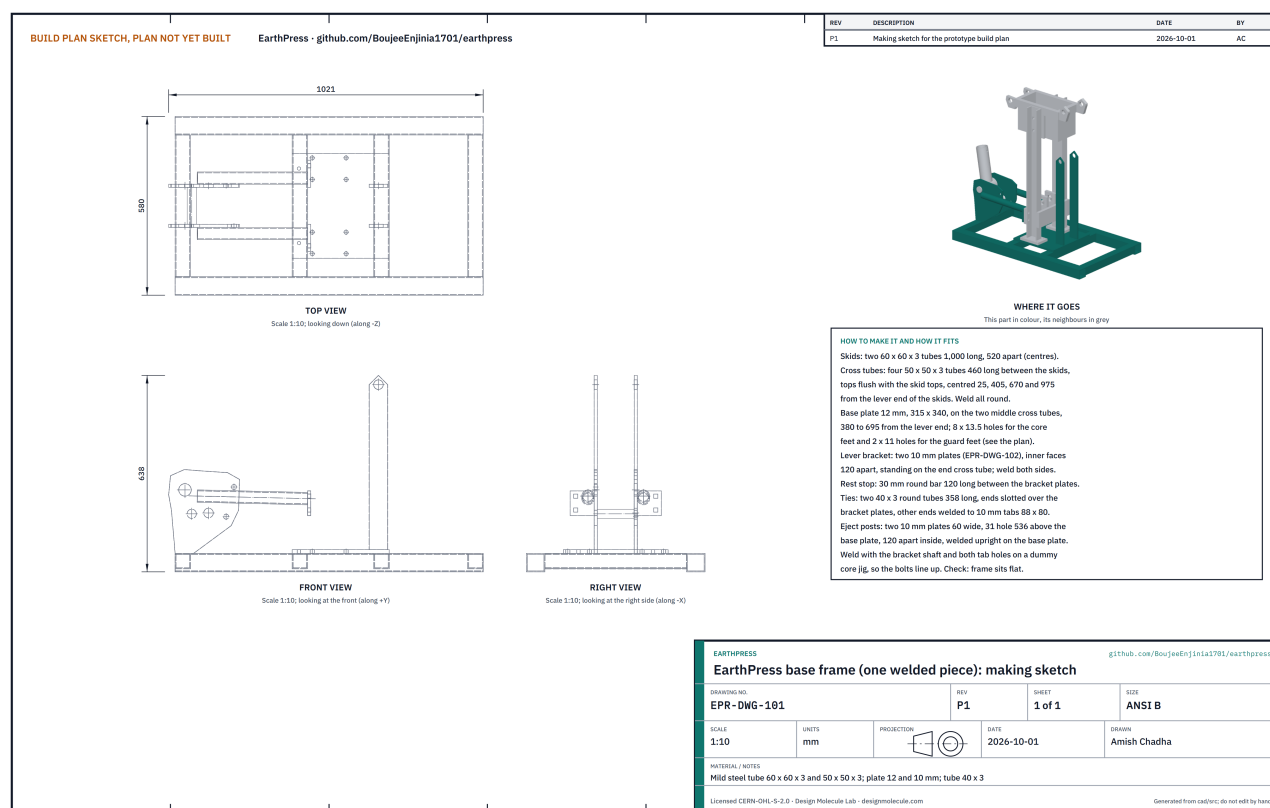

Figure 2. Base frame making sketch (EPR-DWG-101).
3. Cut the base plate, 12 mm, 315 x 340. Drill eight 13.5 holes for the core feet (on a 110 x 70 pattern each side, centred 120 either side of the middle) and two 11 holes for the guard feet, as Figure 2 shows. Weld the plate onto the two middle cross tubes, 380 to 695 from the left ends.